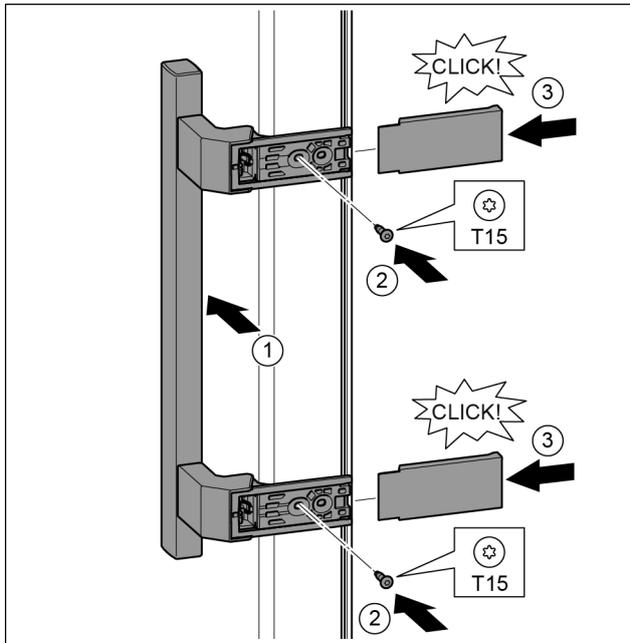

Fig. 19
- ▶ Position the handle on the other side. Fig. 19 (1)
- ▶ Tighten the screws with the T15 screwdriver. Fig. 19 (2)
- ▶ Position the covers on the side and push in. Fig. 19 (3)